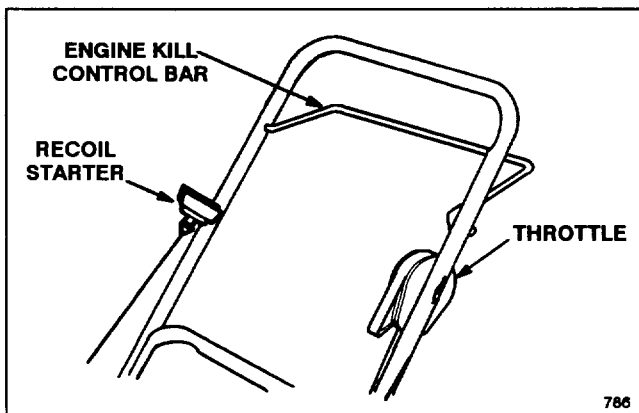

Figure 8
1. CONTROLS—Throttle, engine kill control bar and recoil starter are on upper handle (Fig. 8).
6. STOPPING (Fig. 8)—Release control bar and stay behind handle until engine and blade stop. Pull wire off spark plug if mower will be unattended or not used.